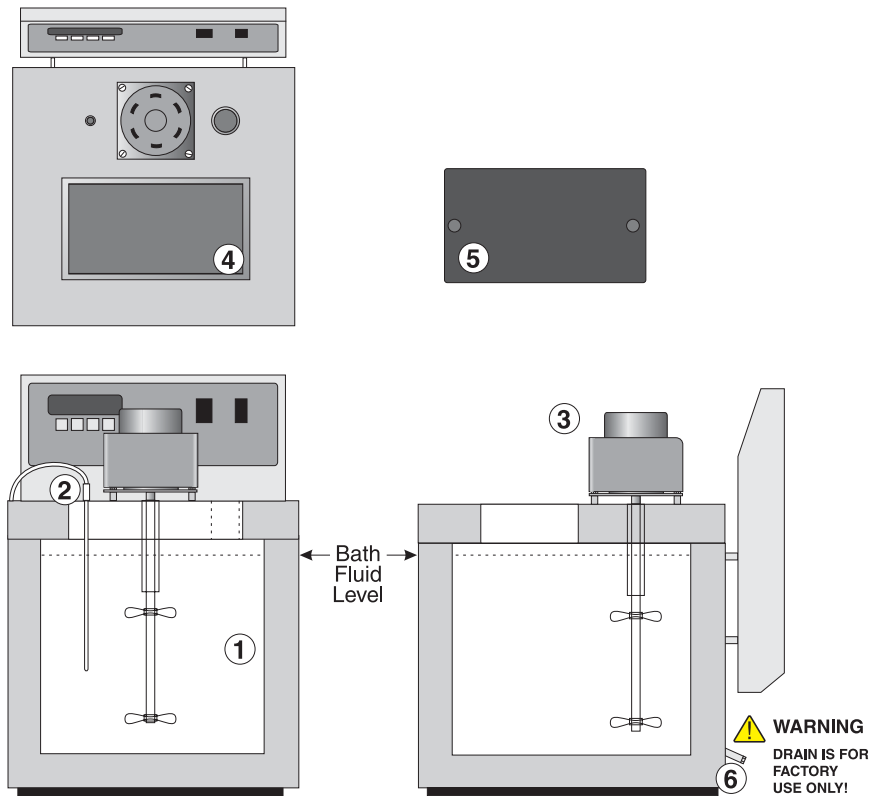
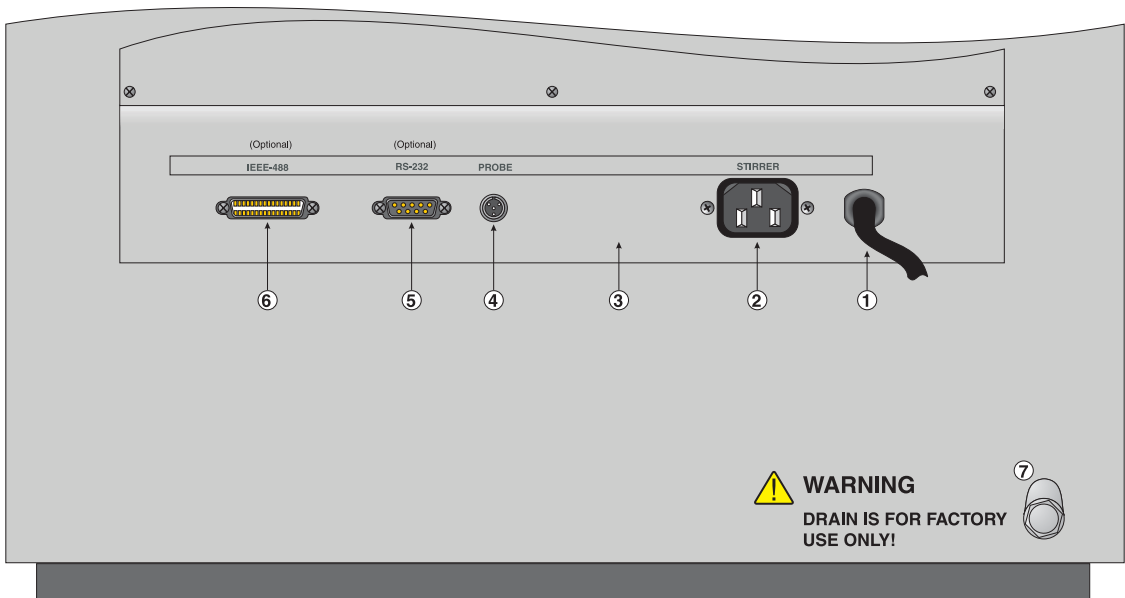

Figure 3 Bath and Lid Components
Figure 4 Back Panel Features
Before filling the bath make sure the drain is well plugged (see Figure 3 and Figure 4 on pages 24 and 26). When using heat transfer salt you must follow a special procedure in filling and heating the bath because the salt is solid at lower temperatures. See Section 8.1.2.
Disconnect power to the stirrer if at any time the material in the bath is solid and prevents the stirrer from turning. Fill the bath with clean unpolluted salt. Fill the bath carefully through the large square access hole to a level that will allow for stirring and thermal expansion. Under-filling may reduce bath performance and may possibly damage the bath heater. The salt should never exceed a height of 1/2” below the top of the tank. See Figure 3 on page 52 for reference to the fluid level with regards to the top of the tank and the lid of the bath. Carefully monitor the bath fluid level as the bath temperature rises to prevent overflow or splashing. Use caution to prevent bath fluid from spilling on the stir motor while filling.
Inspect the bath controller probe (see Figure 3 on page 24). It should not be bent or damaged in any way. Reasonable caution should be used in handling this probe as it contains a precision platinum sensor and is mechanically shock
Be sure the stirring motor power cord is plugged into the "STIRRER" socket at the back of the bath (see Figure 4 on page 26).
(5) The heater power switch is used to select the appropriate heater power levels for heating and controlling temperatures.
The bath tank and lid assembly includes (see Figure 3 on page 24): (1) the tank, (2) the control probe, (3) the stirring motor, (4) the access holes, (5) the access hole cover, and (6) the drain tube.
- (1) The bath tank is constructed of stainless steel. It is very resistant to oxidation in the presence of most chemicals and over a wide range of temperatures.
- (2) The control probe provides the temperature feedback signal to the controller allowing the controller to maintain a constant temperature. The control probe is a precision platinum resistance thermometer (PRT). The control probe is delicate and must be handled carefully. The probe is placed in the small hole in the top of the bath so that the probe tip is fully immersed in the bath fluid. The probe cable connects to the bath at the probe connector on the back panel.
- (3) The stirring motor is mounted on the bath tank lid. It drives the stirring propeller to provide mixing of the bath fluid. Proper mixing of the fluid is important for good constant temperature stability. The stirring motor power cord plugs into the back of the bath at the power socket labelled “STIRRER”.
- (4) On the bath lid is a large rectangular access hole and a small circular access hole. These holes are used for placement of thermometers and devices into the bath. When possible the access holes should be covered.
- (5) An access hole cover is recommended to cover the large square access opening in the top of the bath. This improves bath temperature stability, prevents excess fluid evaporation or fumes and increases safety with hot fluid. The user may drill or cut holes in the cover to accommodate the instruments to be calibrated or immersed in the bath. Spare covers are available from Hart Scientific.
- (6) The drain tube, located at the lower left corner of the bath, is for factory use only.
The back panel of the bath contains the following features (see Figure 4 on page 26): (1) the bath power cord, (2) the stirring motor power socket, (3) the internal fuses, (4) the probe socket, (5) the RS-232 interface connector (optional), (6) the IEEE-488 interface connector (optional), and (7) the drain tube.
Power to the bath is provided by an AC mains supply. See Section 3.1, Specifications, for power details. See Figure 4 on page 26. Power to the bath passes through a filter to prevent switching spikes from being transmitted to other equipment.
The drain at the back of the bath (see Figure 4 on page 26) is *for factory use only*. During operation of the bath the drain plug must be screwed on tightly.
The controller allows the operator to set the bath temperature with high resolution, set the cutout, adjust the proportional band, monitor the heater output power, and program the controller configuration and calibration parameters. The controller may be operated in temperature units of degrees Celsius or Fahrenheit. The controller is operated and programmed from the front control panel using the four key switches and digital LED display. The controller may also be optionally equipped with an RS-232 serial or IEEE-488 GPIB digital interface (see Figure 4 on page 26) for remote operation. Operation of the controller using the front control panel is discussed in Section 9. Operation using the digital interfaces is discussed in Section 10.